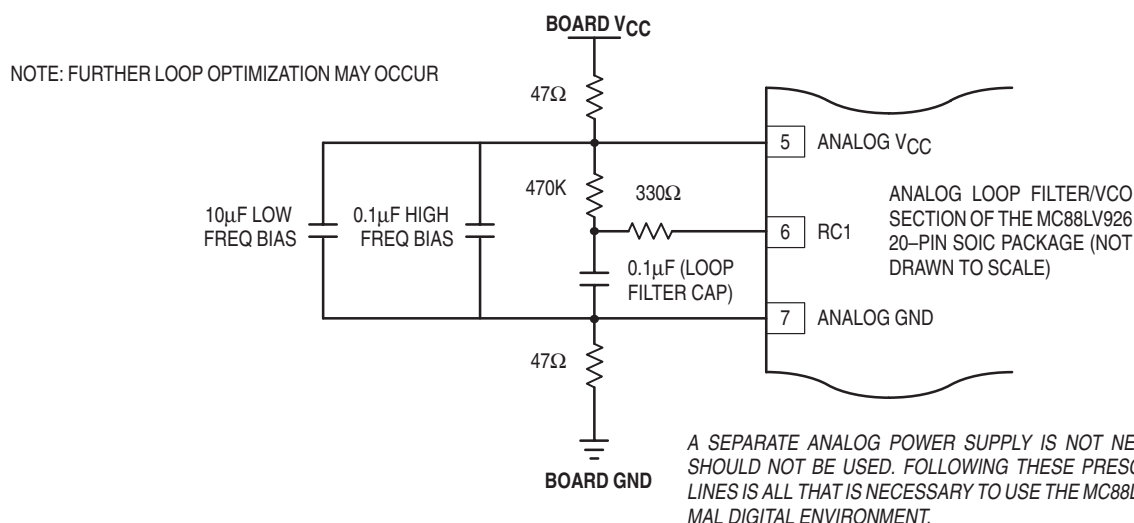

Figure 6. Recommended Loop Filter and Analog Isolation Scheme for the MC88LV926
- Figure 6. shows a loop filter and analog isolation scheme which will be effective in most applications. The following guidelines should be followed to ensure stable and jitter-free operation:
- purpose of the bypass filtering scheme shown in Figure 6. is to give the 88LV926 additional protection from the power supply and ground plane transients that can occur in a high frequency, high speed digital system.
- In addition to the bypass capacitors used in the analog filter of Figure 6., there should be a 0.1 $\mu F$  bypass capacitor between each of the other (digital) four  $V_{CC}$  pins and the board ground plane. This will reduce output switching noise caused by the 88LV926 outputs, in addition to reducing potential for noise in the 'analog' section of the chip. These bypass capacitors should also be tied as close to the 88LV926 package as possible.